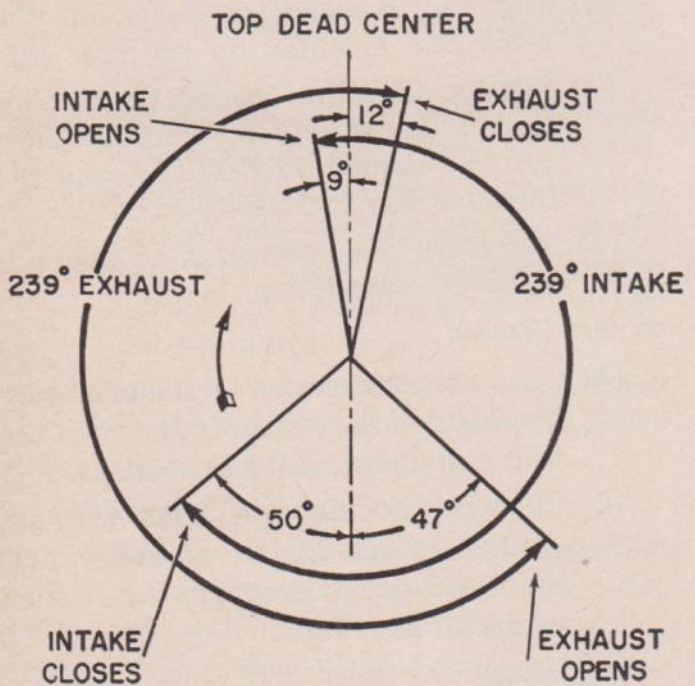

Figure 66. Valve timing.
b. *Valve Timing.* With the camshaft gear and crankshaft gear positioned as instructed in paragraph 59d(4), check the timing as follows: Carefully adjust the inlet valve tappet for No. 1 cylinder to .020 inch. Rotate the crankshaft clockwise until the piston in the No. 1 cylinder is ready for the intake stroke. The intake opens 9° before top dead center as shown in figure 66. Note the distance between the top center mark and the 5° mark and estimate the 9° position. With the crankshaft in this position, timing is correct if the tappet is just tight against the valve stem. Readjust the tappet to the running clearance of .016 inch.